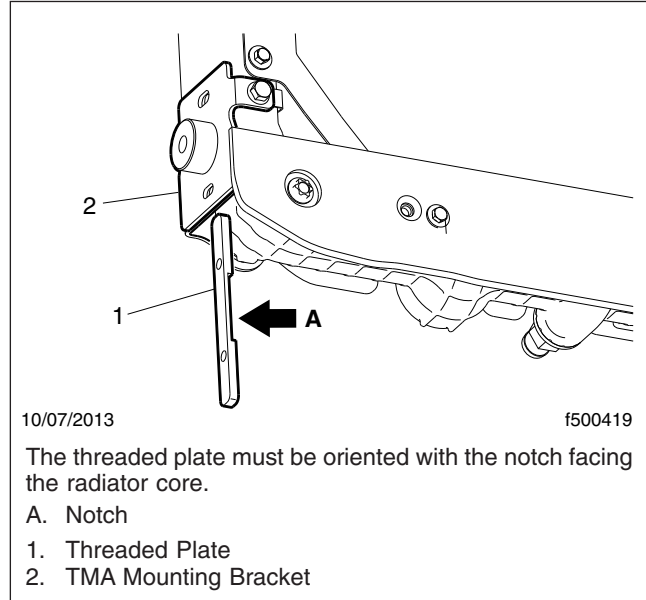

Fig. 7, Threaded Plate Installation
10. Slide the threaded plate up inside of the radiator side channel as shown in Fig. 7. Make sure the notch is facing the radiator core.